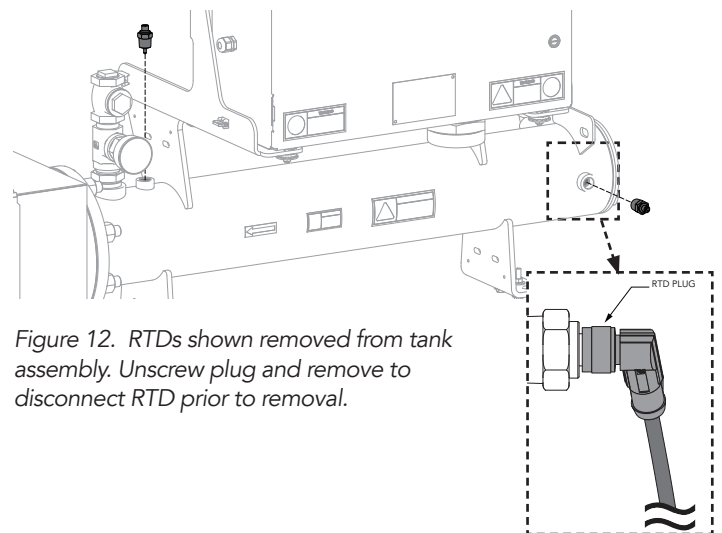

Figure 12. RTDs shown removed from tank assembly. Unscrew plug and remove to disconnect RTD prior to removal.
3. Unscrew RTD plug. Remove plug. See Fig. 12.